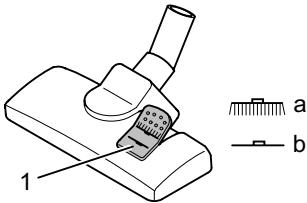

Fig. 12
**Hard floor (Fig. 12/a)**
**Carpet (Fig. 12/b)**